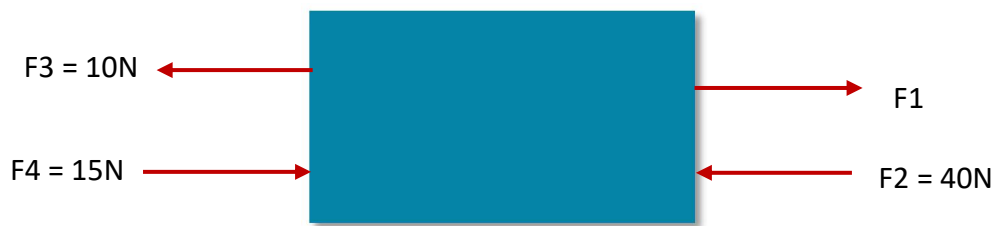

Figure 5 (a)
ii. Based on **Figure 5 (a)**, determine the value of F_1 so that the object is in equilibrium.
3. **Figure 5 (b)** shows forces acting on a block. Calculate the magnitude of resultant force acting on the block.